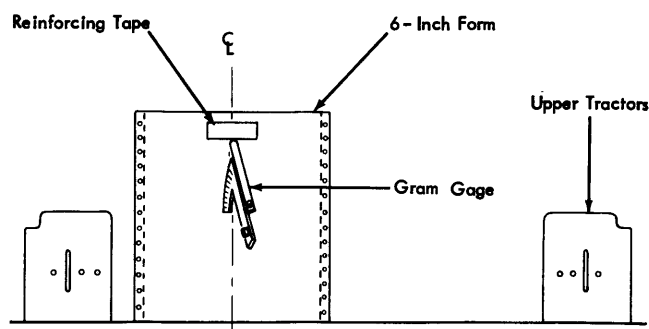

Figure 22. Brush Tension Check
6. Using gram gage (part 450459), insert the 10X blade in the reinforced center part of the form (Figure 22).